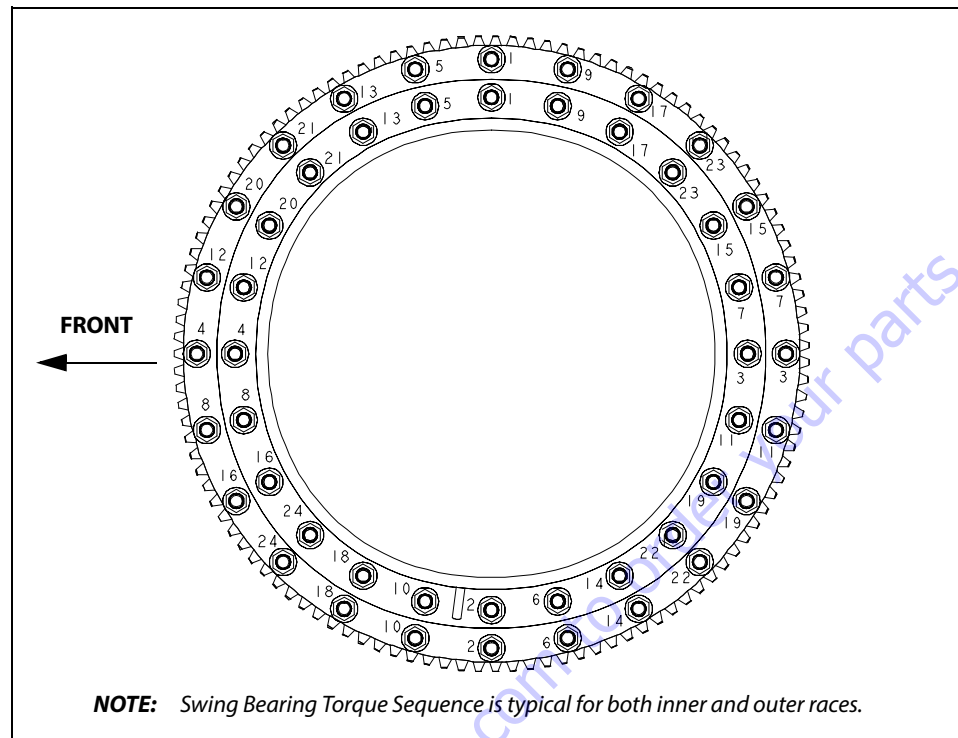

Figure 3-46. Swing Bearing Torque Sequence
3. Refer to the Torque Sequence diagram as shown in Figure 3-46., Swing Bearing Torque Sequence. Clean any residue off the new bearing bolts, then apply a light coating of JLG Threadlocker P/N 0100019 and install the bolts and washers through the frame and outer race of the bearing. Tighten the bolts to an initial torque of 190 Ft. lbs. (260 Nm) w/JLG Threadlocker P/N 0100019.
8. Following the Torque Sequence diagram shown in Figure 3-46., Swing Bearing Torque Sequence, tighten the bolts to a torque of 190 ft. lbs. (260 Nm) w/Loctite.